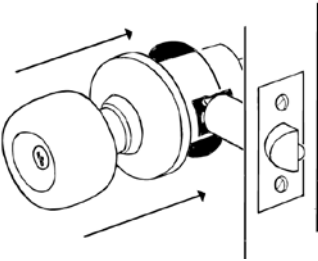

Fig 9 Fit the external half of the lockset, aligning with the holes in the latch assembly inside the door
- Push the latch bolt flush to the latch plate with your thumb and insert the external half of the lockset, aligning the lockset with the holes in the latch assembly inside the door (see Fig 9). Once installed, remove your thumb from the latch bolt.